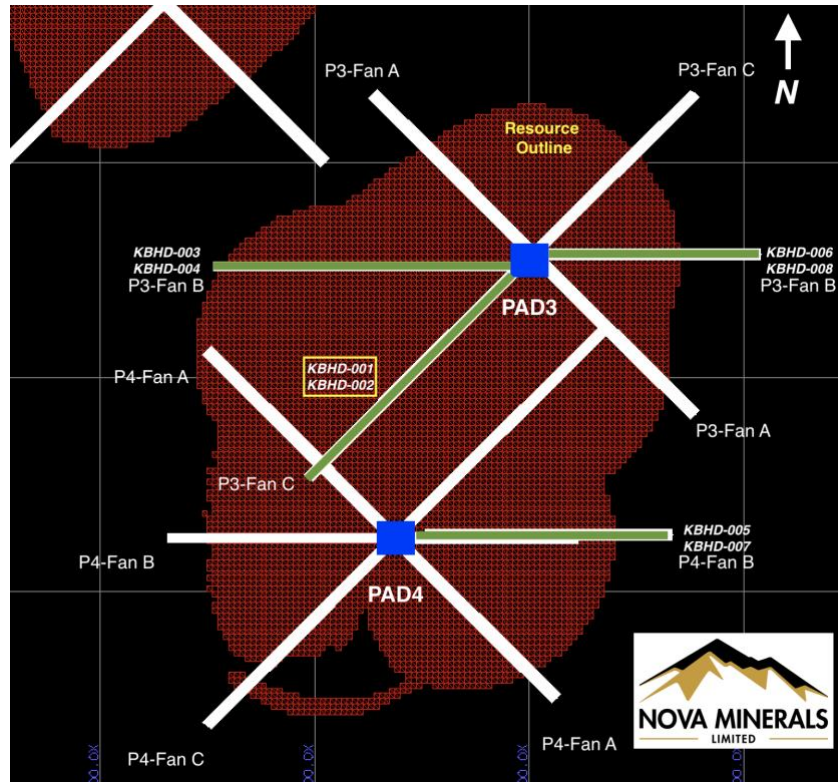

Figure 1. Plan view of drilling to date
- Current drilling focused on Block B (Starter Pit) in Figure 1 with the goal of expanding and upgrading the Resource to expedite project feasibility studies